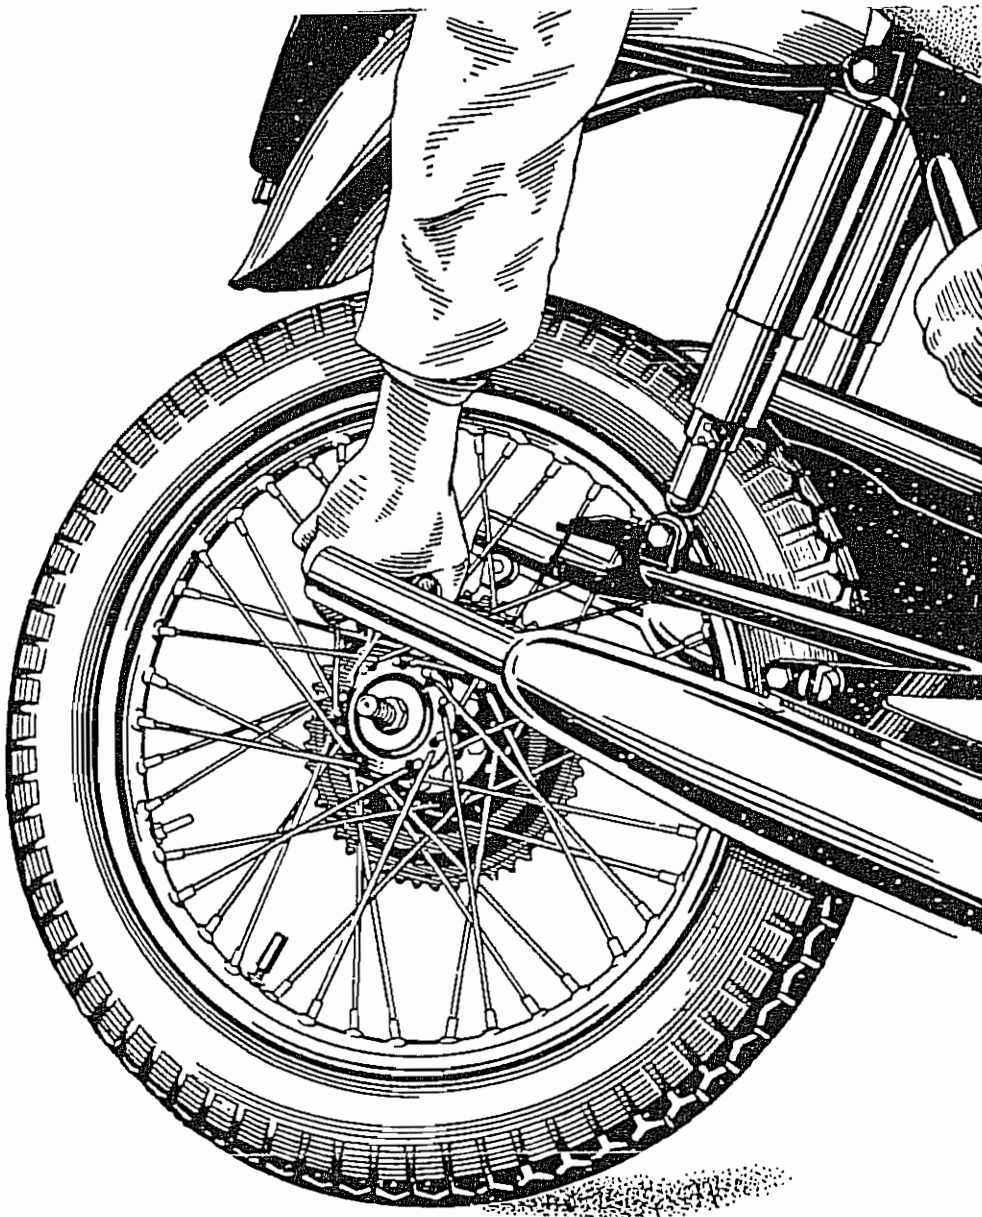

Fig. 49. REMOVING WHEEL FROM S/A FRAME
**Wheel.** Fig. 49 clearly indicates the method of withdrawing the wheel from the frame. If a prop stand is fitted, it is advantageous to lower it in order to steady the machine during this operation. When the machine is at the right angle, the wheel can be easily removed.
**Wheel.** Ease the wheel to the R.H. side until the hub splines are clear of the brake drum splines. Tilt the machine to the left (if a prop. stand is fitted, pull out and use as a steady) when the wheel can be removed from the R.H. side. See Fig. 49 on page 124 which clearly shows the method to adopt.